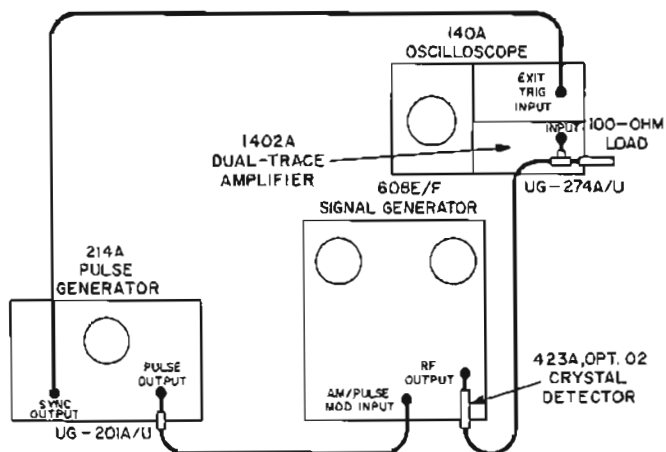

Figure 5-9. Pulse Modulation Test Setup
a. Connect signal generator in test setup illustrated in Figure 5-9.